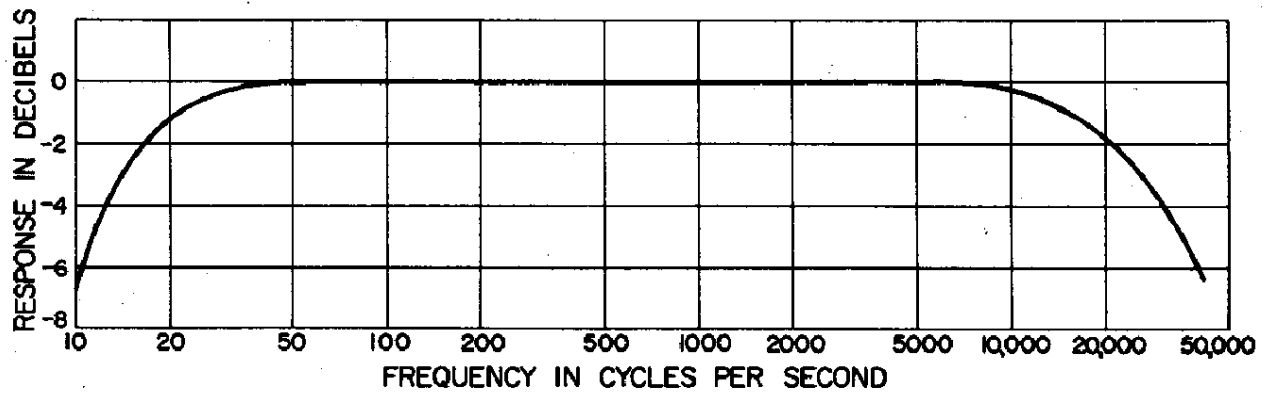

Figure 4.
2.7 WIDE - RANGE MICROPHONES. The over-all frequency response characteristic of the Type 1551-B, with the WEIGHTING switch set at 20 kc, is essentially flat from 20 cps to 20 kc. (See Figure 4.) This permits use of such wide-range microphones as those used in the Types 1551-P1L and 1551-P1H Condenser Microphone Systems.